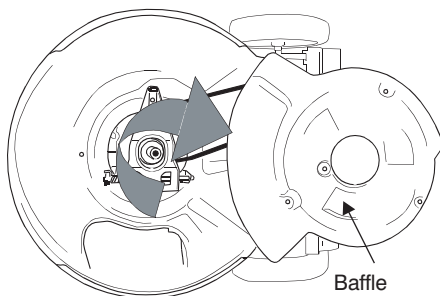

Figure 20
7. Pivot baffle towards the rear of the mower. See Figure 20.